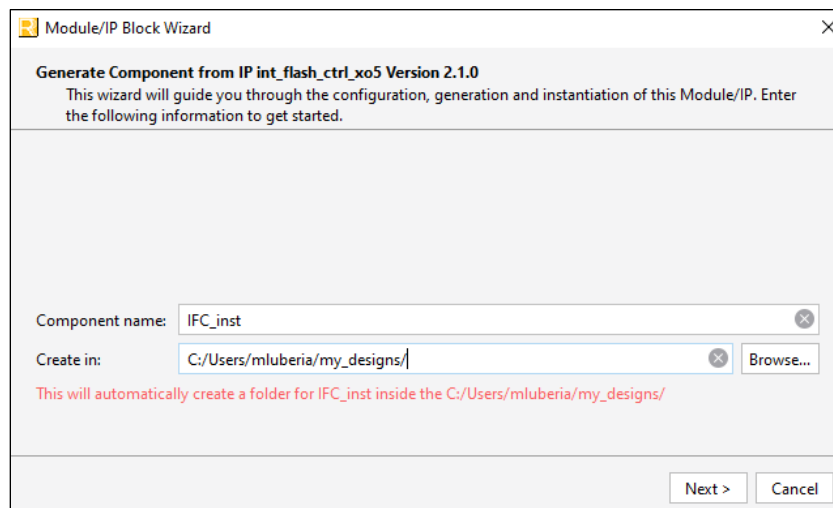
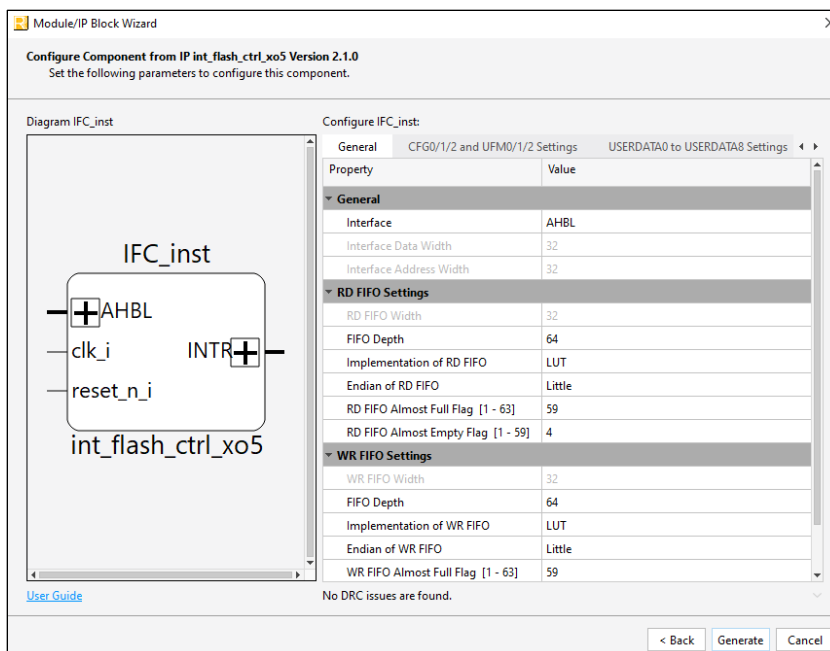
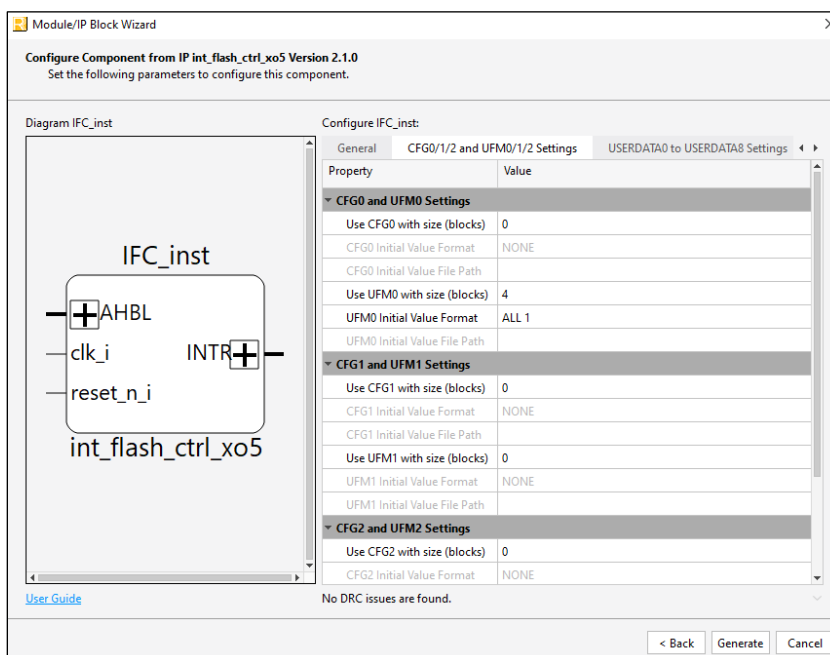
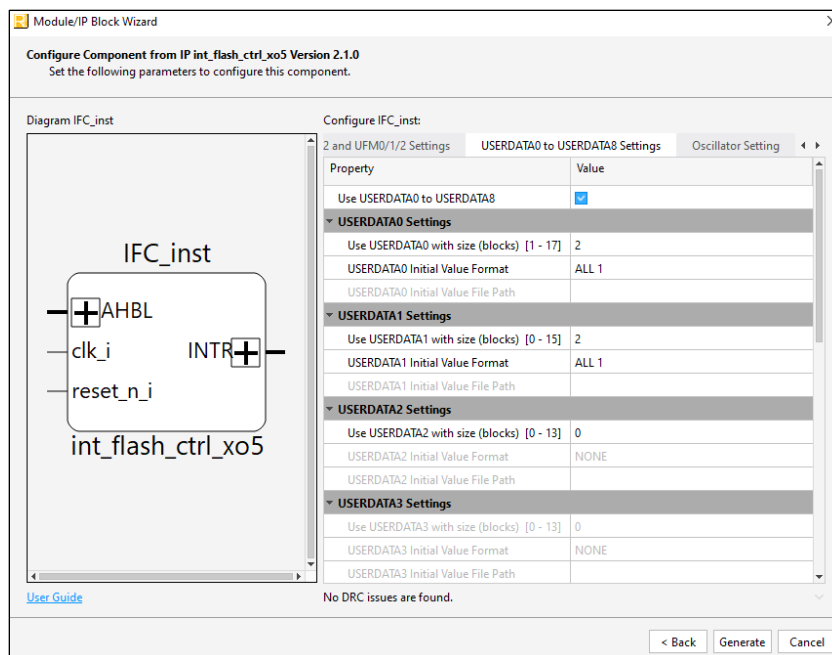

Figure 7.1. Generating Internal Flash Controller Using Module/IP Block Wizard
Figure 7.2. Module/IP Block Wizard – General Tab
Figure 7.3. Module/IP Block Wizard – CFG0/1/2 and UFM0/1/2 Settings Tab
Figure 7.4. Module/IP Block Wizard – USERDATA0 to USERDATA8 Settings Tab
4. Choose the partition settings. Figure 7.2, Figure 7.3, Figure 7.4, Figure 7.5, and Figure 7.6 show the attribute tabs.
Designing with the IP	<ul style="list-style-type: none"> <li>Reworked section from Internal Flash Controller for MachXO5-NX Generation.</li> <li>In the Generating and Instantiating the IP section: <ul style="list-style-type: none"> <li>Updated Figure 7.1. Generating Internal Flash Controller Using Module/IP Block Wizard, Figure 7.2. Module/IP Block Wizard – General Tab, Figure 7.3. Module/IP Block Wizard – CFG0/1/2 and UFM0/1/2 Settings Tab, Figure 7.4. Module/IP Block Wizard – USERDATA0 to USERDATA8 Settings Tab, and Figure 7.5. Module/IP Block Wizard – Oscillator Setting Tab.</li> <li>Added Figure 7.6. Module/IP Block Wizard – Access Mode Tab.</li> <li>Made minor editorial changes.</li> </ul> </li> </ul>